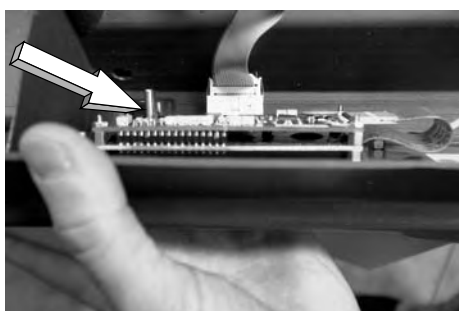

Fig. 44
- 3) detach the flat cable and ground wire from the keyboard (fig. 44).